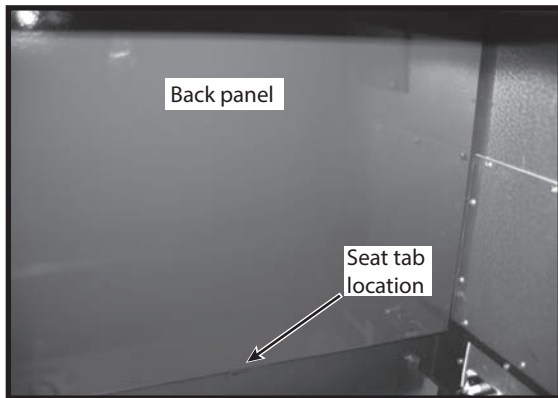

Figure 46: Right seat tab.
1. Insert the back panel (Figure 46) into the firebox by tilting the panel and rest the panel on the seat tabs at the back of the firebox.